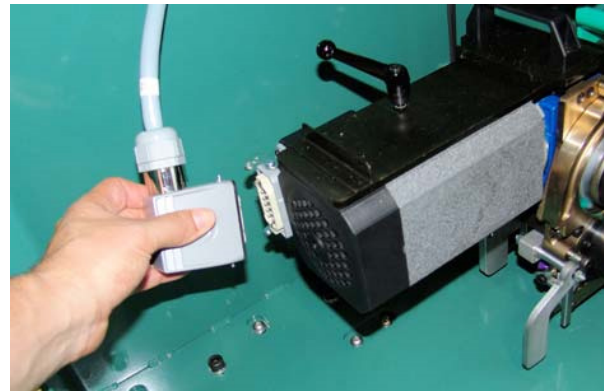

Figure 4-8: Tension Module Quick-Connect Cable
1. To remove the tension module, first release the electrical quick-connect cable (**Figure 4-8**).